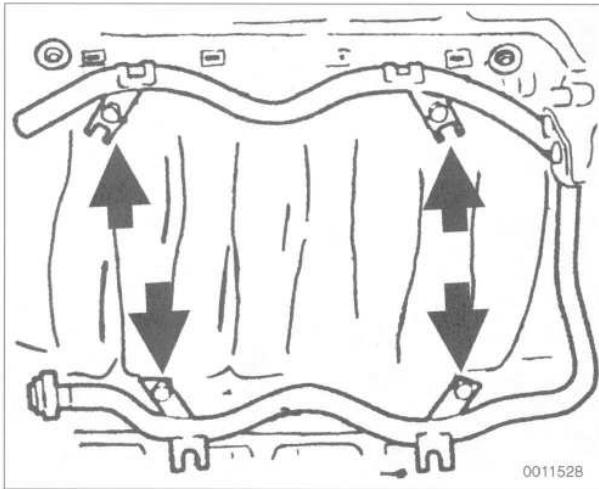

Fig. 23. Fuel rail mounting bolts (arrows) on M60 engine.
7. Remove the fuel rail mounting bolts (4). See Fig. 23.